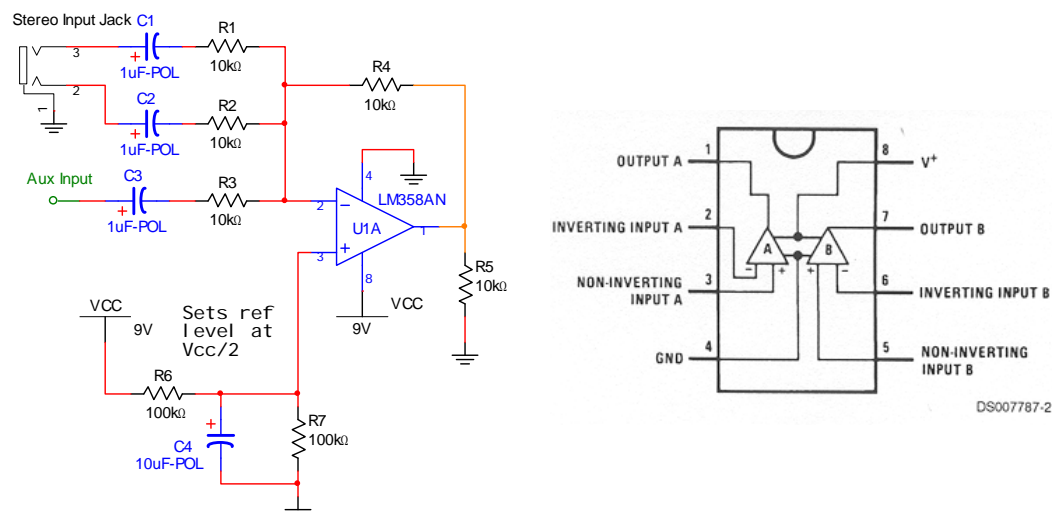

Figure 1-9 – Single-ended unity-gain summing network and LM358 pinout
- Add the summing circuit as shown in Figure 1-9. Just put in the AUX channel for now (C3-R3), don’t worry about the stereo jack and associated RC elements, those can be added in the hardwired version